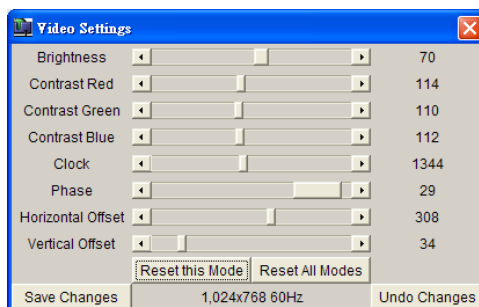

Figure 10-8 Video Settings
- o Video Settings: Here you can give specified detailed settings for the video. Please refer to Figure 10-8.